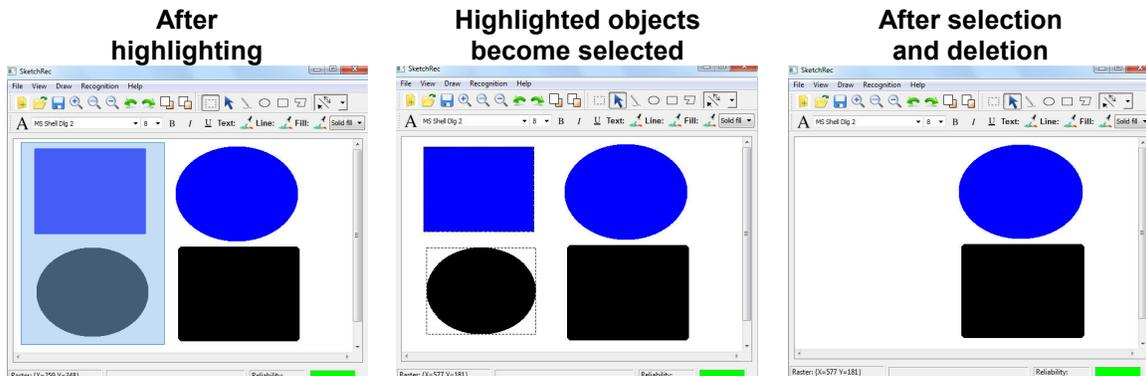
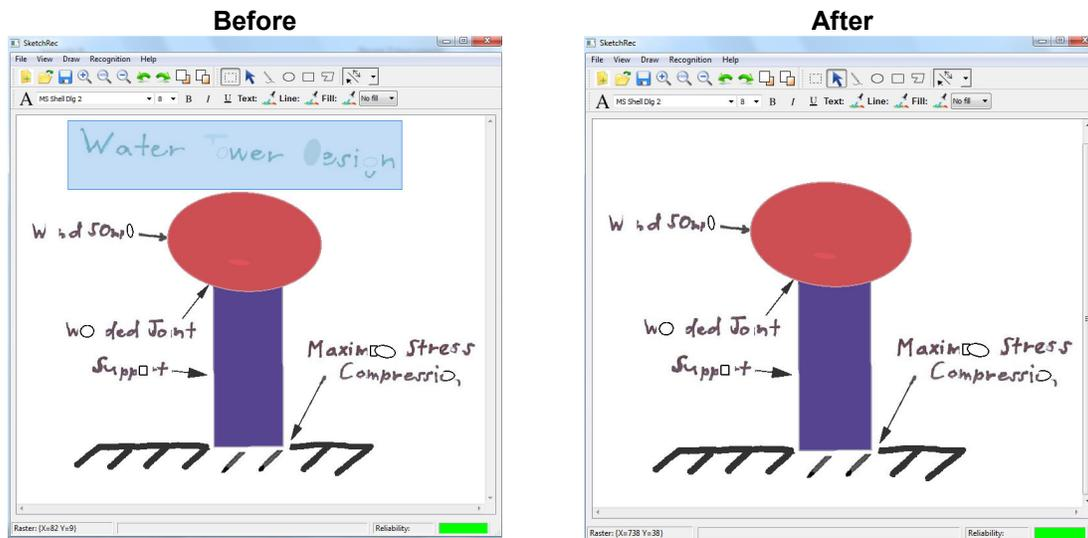

Figure 6: Simple example of area selection.
Figure 14: Removal of undesired vector items.
Object selection is achieved by simply clicking once on the object of interest. This will result in SketchRec[®] rendering contours of the object, as well as its bounding box, as a thin, black, dashed line (see Figure 6 or Figure 14 for an example).
To deploy the area selection, the user simply clicks on the icon with the dashed rectangle and specifies the corner points of the rectangle whose content is to be deleted, either with the mouse or the stylus. As a result, the objects inside the selection area, and their bounding boxes, are visualized with a dashed line, indicating they have been selected (see Figure 6). The user then simply presses on the delete key on the keyboard. This tool can be very effective.
1. The rectangle specified identifies the objects located inside it with high degree of accuracy (see the image to the left in Figure 6).